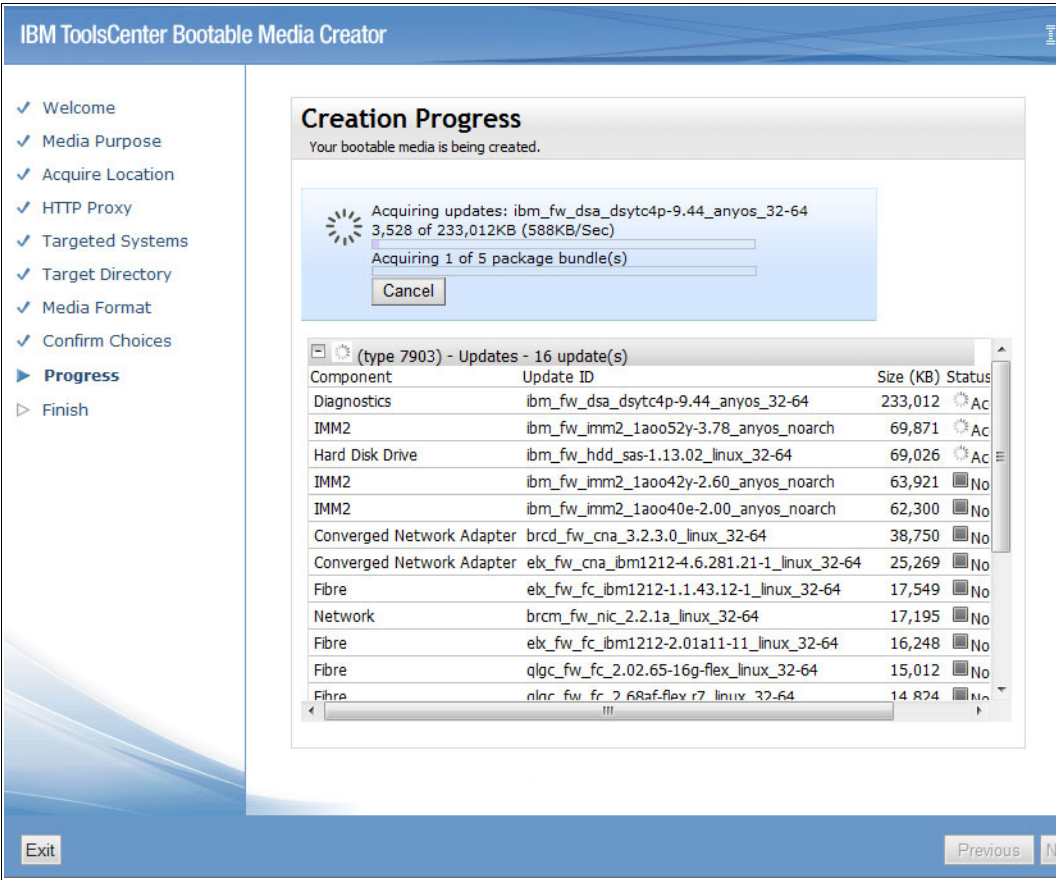

Figure 6-8 BoMC Creation Progress window
11. The Creation Progress window shown in Figure 6-8 shows the progress while downloading firmware updates and the tools needed to apply them. After all files are downloaded, the bootable media is created. When this step is complete, click **Next**, and then click **Finish**.